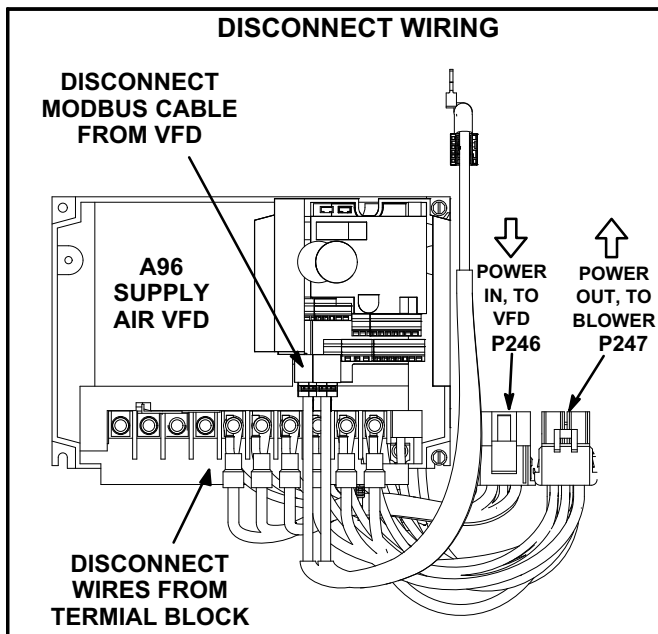

FIGURE 12
- 2- Mark the wires leading to the terminal block on the bottom of the VFD with appropriate terminal name. Disconnect wires from the terminal block. See figure 12.